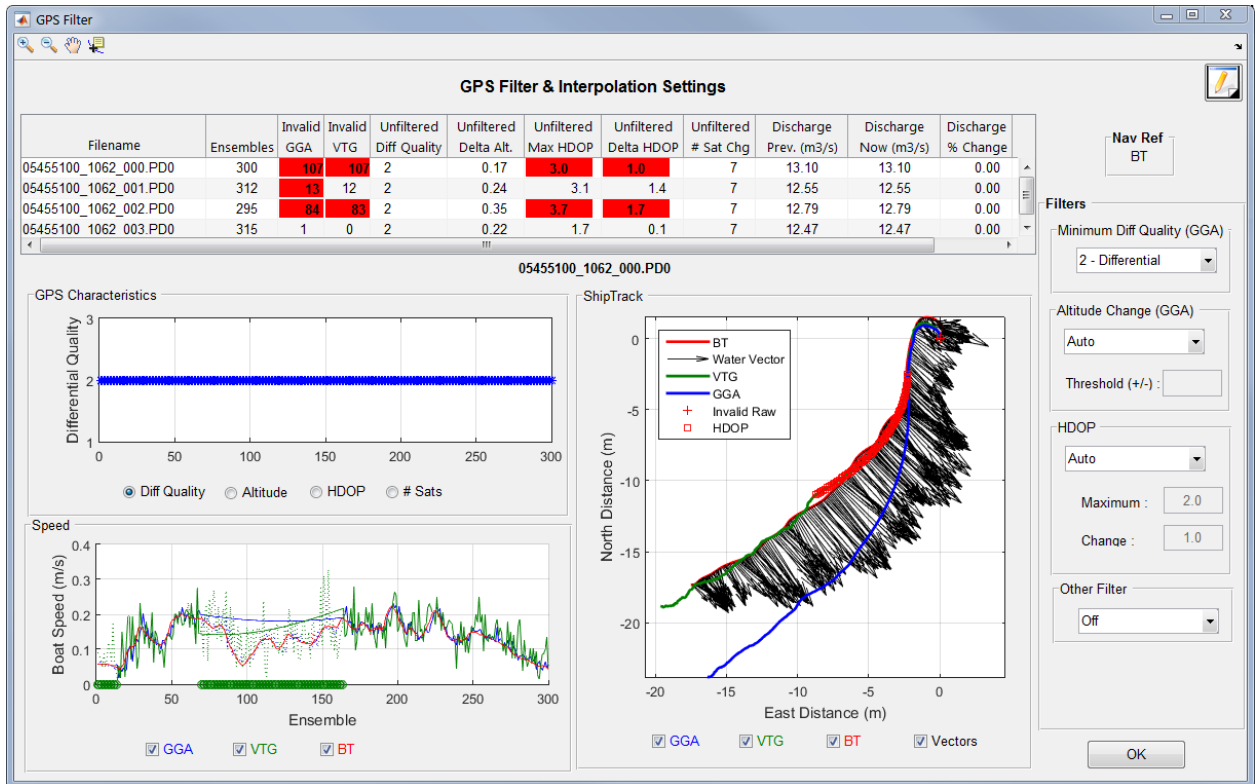

Figure 20. Global Position System (GPS) Filter window.
The GPS Filters button (fig. 1) opens a window that allows the user to evaluate the GGA and VTG data for each transect and change the filter settings (fig. 20). Filter settings are applied to all transects and cannot be set for individual transects.
- The table at the top (fig. 20) allows the user to select the transect to be graphed (by clicking on the desired row) and provides information about the quality of the GPS data. Because setting the thresholds for the GPS filters is based on best assumptions rather than statistical analysis of the data, the table lists the information about GPS quality indicators rather than the number of invalid ensembles based on each indicator. This table has no editable cells. The columns in the table are defined as follows:
To the immediate right of the table is the Nav Ref panel that shows the current navigation or boat velocity reference (fig. 20). If this reference is not GGA or VTG, then changes to these filters will not change the discharge.
The GPS Characteristics panel below the table on the left provides a time series graph of the GPS characteristics provided in the table above the panel (fig. 20). Radio buttons below the graph are used to determine what data are graphed (figs. 20–23). Data determined to be invalid by the filters are marked with a red circle.
The Speed panel below the GPS Characteristics panel provides a time series graph of the boat speed based on GGA, VTG, and BT data. The data displayed on the graph are controlled by the three check boxes at the bottom of the panel. Processed data (used to compute discharge) are shown in the graph as a solid line and raw data as dashed lines (fig. 20).
The ShipTrack panel allows the GGA, VTG, and BT ship tracks to be compared. Invalid data are identified with a symbol, which is defined in the legend. The water vectors are only graphed on the navigation reference currently selected for discharge computation. The data shown in the graph are controlled by check boxes at the bottom of the panel (fig. 20).
The Filters panel is on the right side of the window (fig. 20) and allows the user to review and change the filter settings.